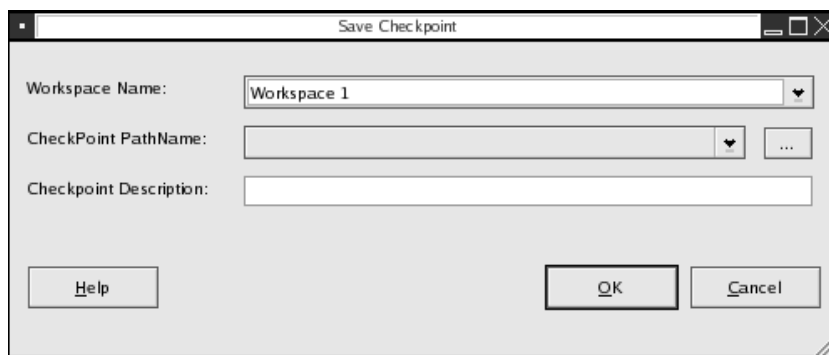

Figure 4-14 Save Checkpoint dialog
2. Click **Save**. The Save Checkpoint dialog appears (Figure 4-14), in which you can configure the checkpoint.